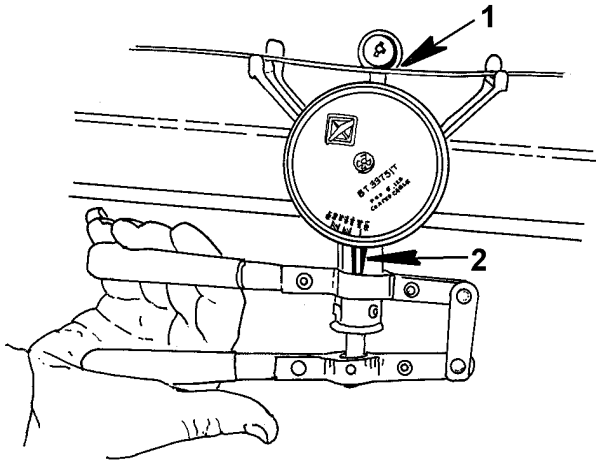

Figure 3 Tension Measuring Tool Handles Depressed
3. Depress the tool handle fully so that the wheel will engage the far side of the cable (Figure 3).
4. Release the handle quickly but smoothly and read the direct tension units on the dial face next to the indicating bar (Figure 3).